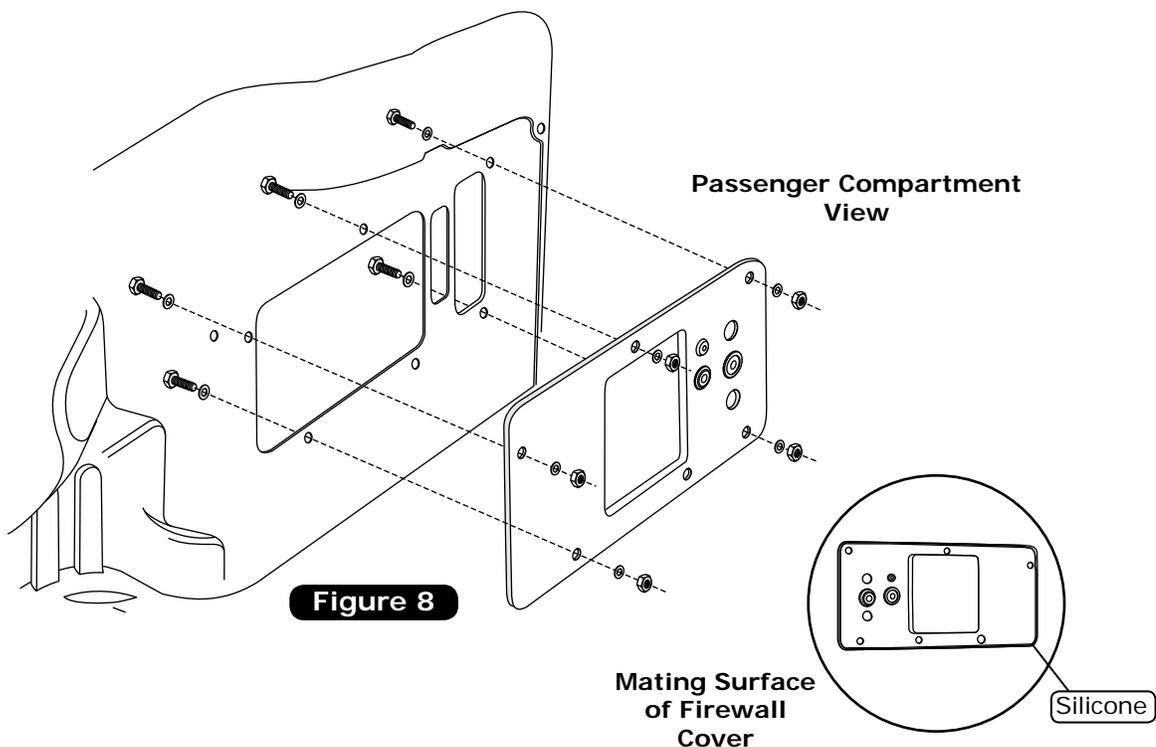

Figure 8
1. Apply a 1/4" bead of silicone around the mating surface of the firewall cover, and secure it to the firewall using (5) 1/4-20 x 1/2" bolts, (10) flat washers and (5) nuts as shown in Figure 8, below.